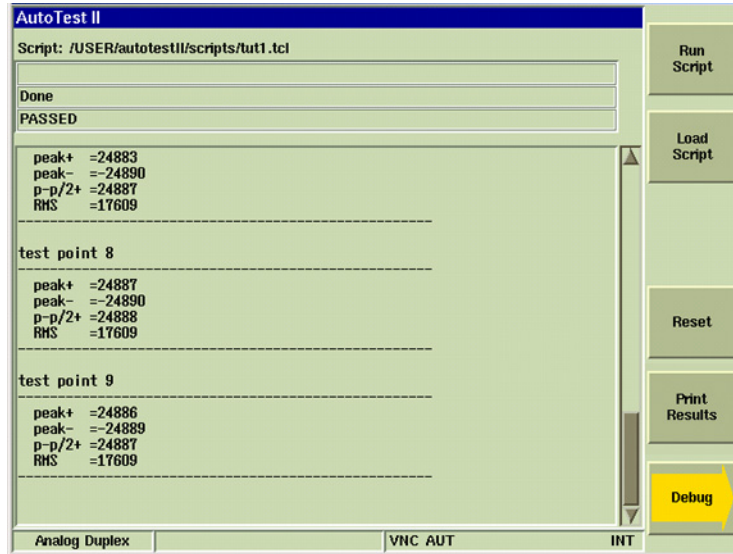

Fig. 6-12 AutoTest - Complete
7. Data displayed at the completion of a test script is also dependent on the commands included in the script. Fig. 6-12 shows the screen configured to display “Done” in the second information field and test status (PASSED) in the third information field.